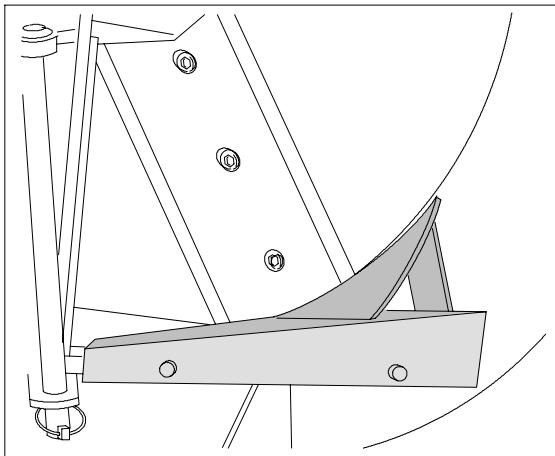

Fig. 2. Installing the fitting block.
1. The hydraulic feeder and mechanical feeders include fitting blocks that are installed between the chipper and feeder. The fitting blocks are installed so that the two guide pins located at the bottom section of the feed opening go through the holes in the fitting block and secure the block. See Fig. 2.